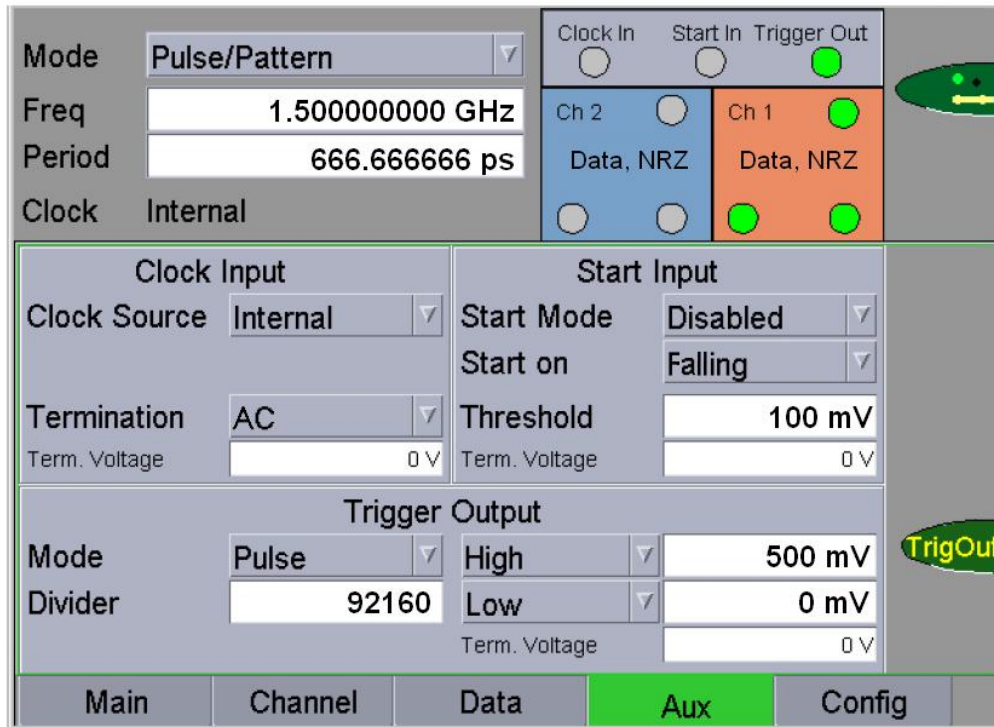

Figure F-2: 81134A Aux Screen Showing Proper Test Settings
- Under the **AUX screen** of the **81134A**, set all values as shown in Figure F-2, below.